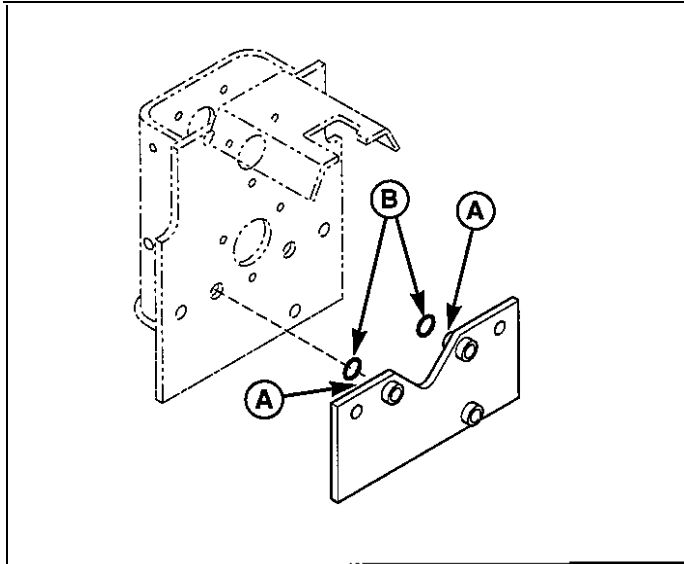

Figure 1. Install O-Rings
1. Install the two o-rings (B, Figure 1) on the mounting plate alignment pins (A)